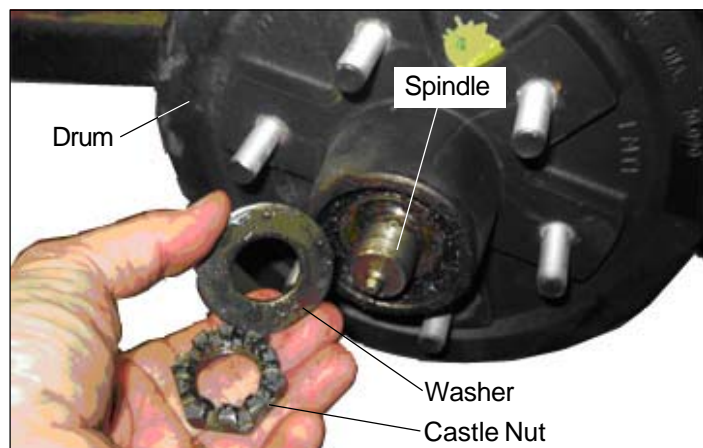

Figure 2 — Spindle Components
4. Remove the cotter pin securing the castle nut and remove the castle nut and washer from the spindle (refer to Figure 2).